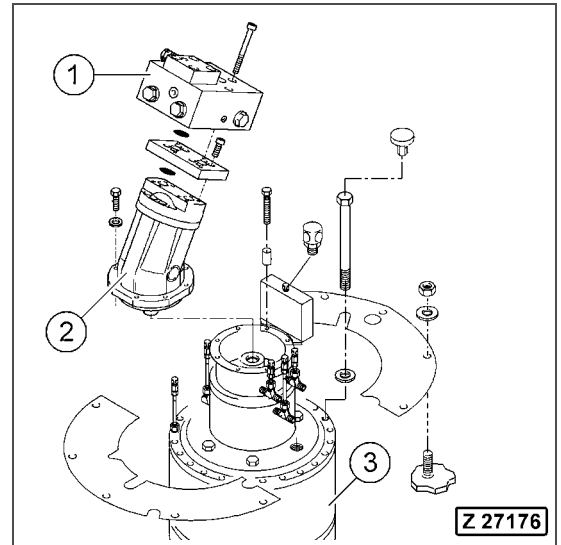

Fig. 3-136
10. Remove swing motor (Fig. 3-136, Pos. 2) from the slew gear box, refer to section 3.7.2.1 on page 3-133.
REMARKS: Leave the hydraulic hoses and the slew service brake valve (Fig. 3-136, Pos. 1) attached to the swing motor.